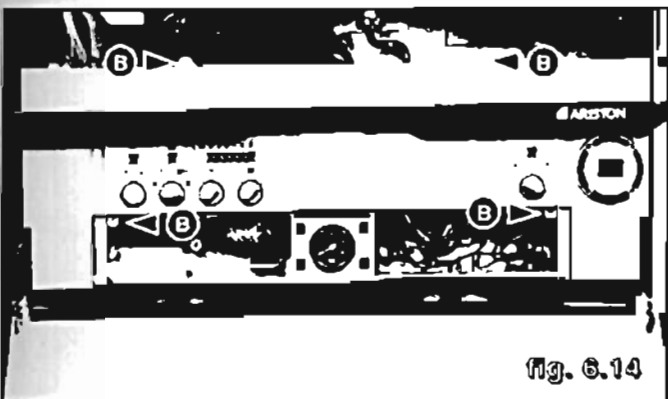

fig. 6.14
- 5 Loosen screws B to remove the plastic front panel (see fig. 6.14);